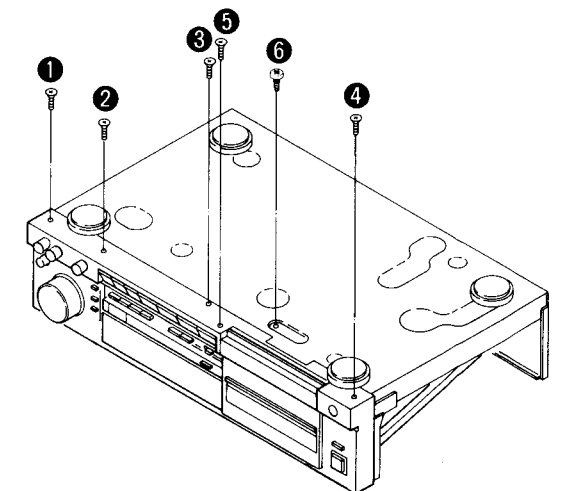

Fig. 5
Procedure 1→5	• Remove the screw (6) (See the Fig. 5). • Remove the 5 screws (1~5). • Push the eject button.